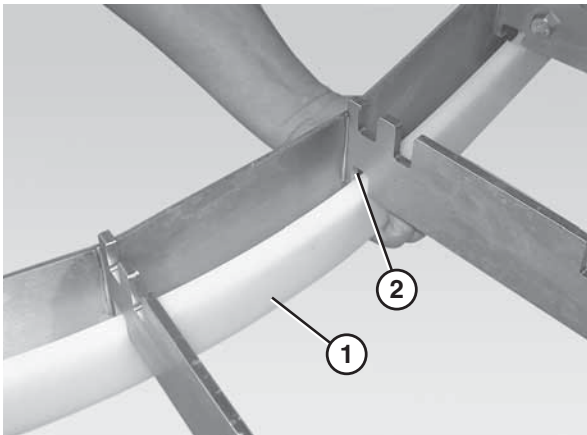

Figure 38
1. Insert the inside return bottom wear strip (**Figure 38, item 1**) into the slots (**Figure 38, item 2**) on the lower inside section of the frame (figure shown without the belt or wear strips).
2. Attach the chain return shoes (**Figure 38, item 1**) to the curve return shafts (**Figure 38, item 2**).